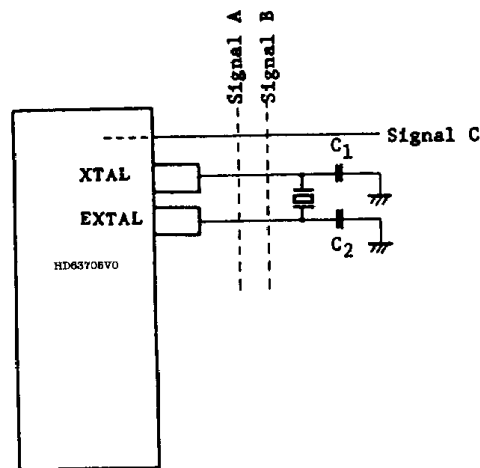

Figure 41 Example of Circuit Causing Trouble in Oscillation
- (1) Locate crystal, ceramic resonator, and load capacity C1 and C2 as near the LSI as possible. (Induction of noise from outside to the XTAL and EXTAL pins may cause trouble in oscillation.)
- (2) Wire the signal lines to the neighboring XTAL and EXTAL pins as far apart as possible.
- (3) Board design of situating signal lines or power supply lines near the oscillator circuit as shown as Figure 41, should not be used because of trouble in oscillation by induction. The resistor between the XTAL and EXTAL, and pins close to them should be 10MΩ or more.